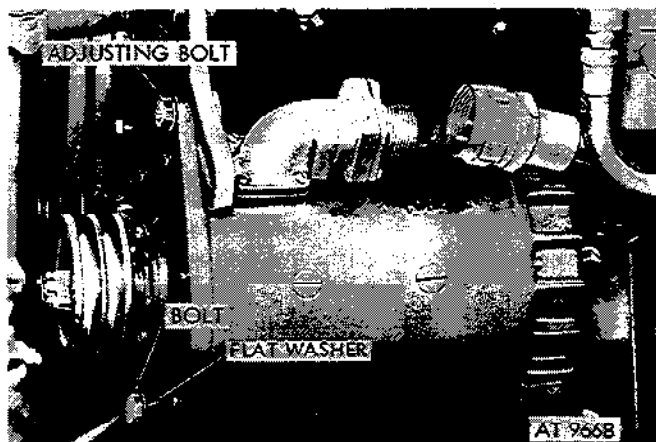

Figure 2-173. Remove adjusting bolt from adjusting arm and generator.
(3) Loosen adjusting arm to cylinder block bolt. Remove adjusting arm bolt, lockwasher and flat washer from adjusting arm and generator. Remove two mounting bolt nuts, lockwashers and flat washers from generator and mounting bracket. Remove mounting bolts and flat washers from generator and bracket (fig. 2-173).